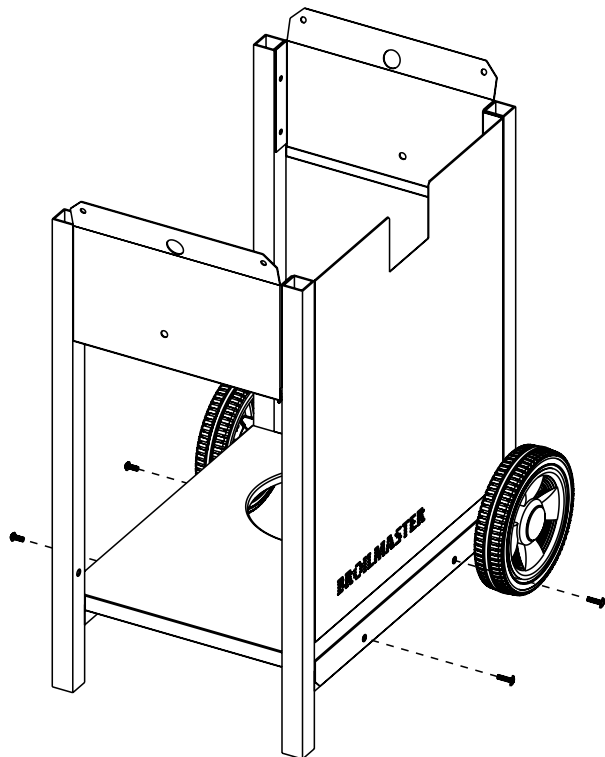

FIGURE 7
Attach base shelf to each frame assembly with two (2) 1/4-20 x 3/4 Phillips screws. Figure 7